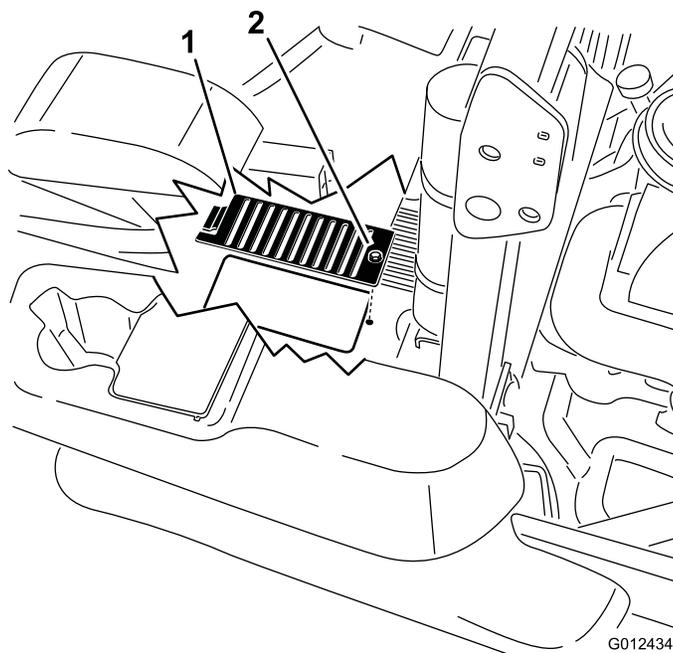

Figure 73
6. Over each dipstick, remove the cover and the bolt attached to the cover. Clean around each dipstick and hydraulic unit (Figure 73).